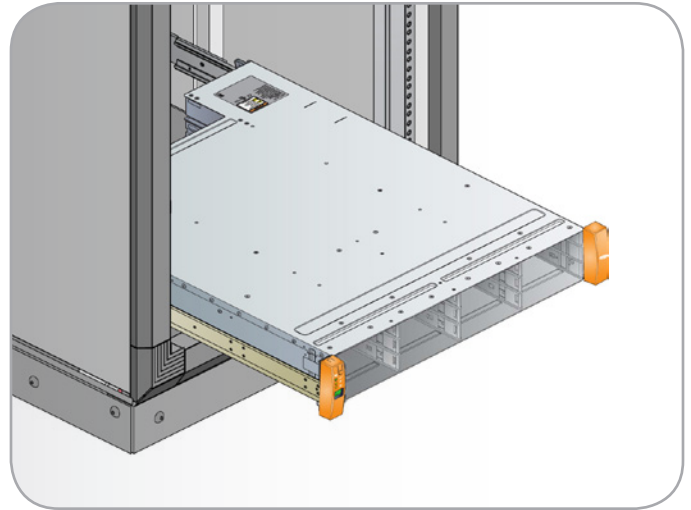

Fig. 29 - Mounting the Enclosure into a Rack
4. Mount the enclosure in the rack as follows (Fig. 29):